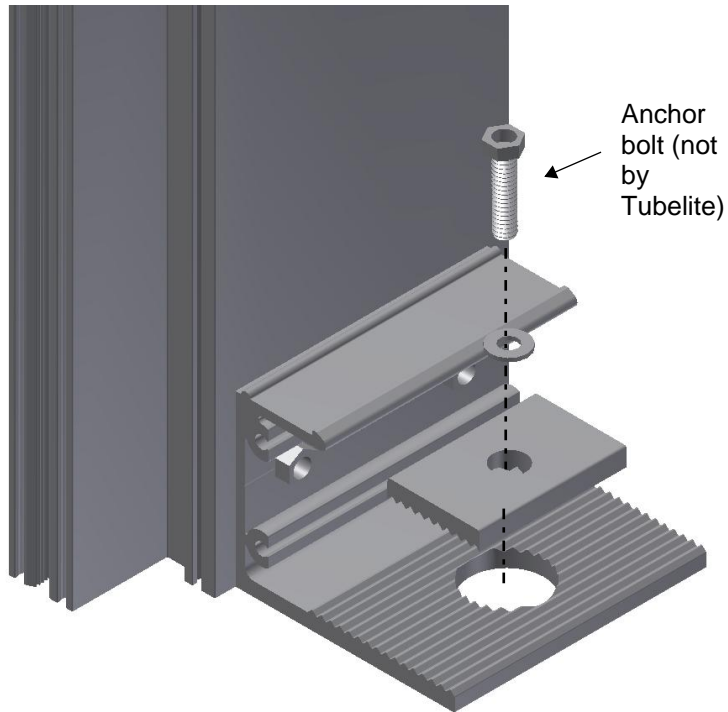

Figure 14: Attach the locking lug to the sill anchor.
- Attach the locking lug to the sill anchor using a washer and anchor bolt (not by Tubelite) as shown in Figure 14.